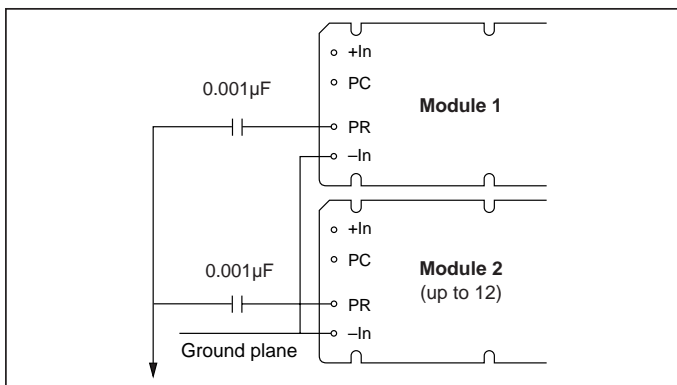

Figure 10—AC coupled single-wire interface.
**AC coupled single-wire interface.** All PR pins are connected to a single communication bus through 0.001 $\mu$ F (500V) capacitors. This interface supports current sharing and is fault tolerant except for the communication bus. See Figure 10.